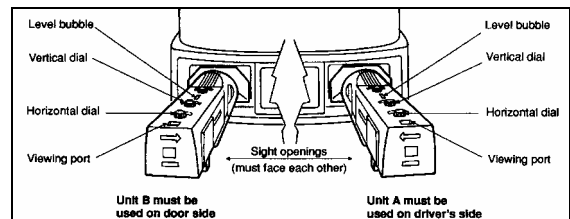

FIGURE 56: HEADLIGHT ALIGNMENT
2. Install aligners on headlights (unit A on driver's side and unit B on other side with the sight openings facing each other) by pushing the handle forward to secure rubber suction disc. Pull handle until it locks. Refer to figure 56.